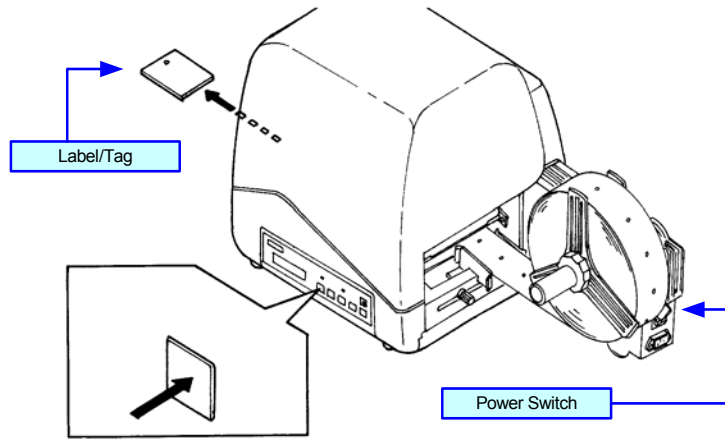

Figure 3-4g, Ribbon Loading
- 11 Restore power and test print label (**Figure 3-4g**).